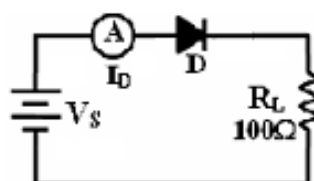

Figure 4
- 1- Construct the circuit shown in Figure 4. By using **1N4007 Si** diode. (*Make sure your diode has the correct polarity*).
- 1- Reverse the polarity of the DC power source (V_S) as shown in Figure 4.